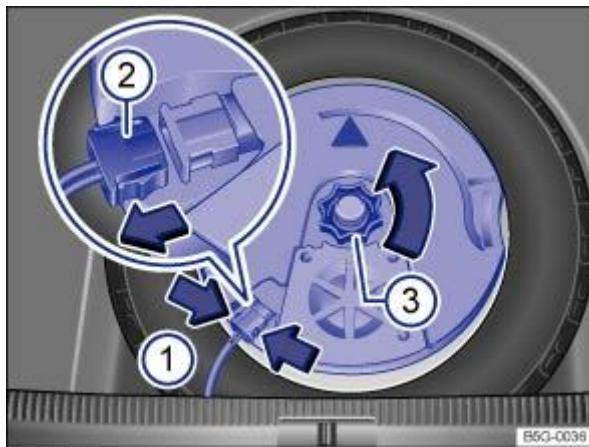

Fig. 142 In the luggage compartment: removing subwoofer (type 1).
To release the connector ⇒ Fig. 142② , press the lugs together ⇒ Fig. 142 (arrow ①).
Pull off the connector ⇒ Fig. 142② in the direction of the arrow and place the disconnected electrical cable to one side.
Unscrew handwheel ⇒ Fig. 142③ in direction of arrow.
Plug in connector ⇒ Fig. 142② until it audibly engages.
Screw the handwheel ⇒ Fig. 142③ onto the threaded pin in the opposite direction to the arrow until the subwoofer is properly secured.